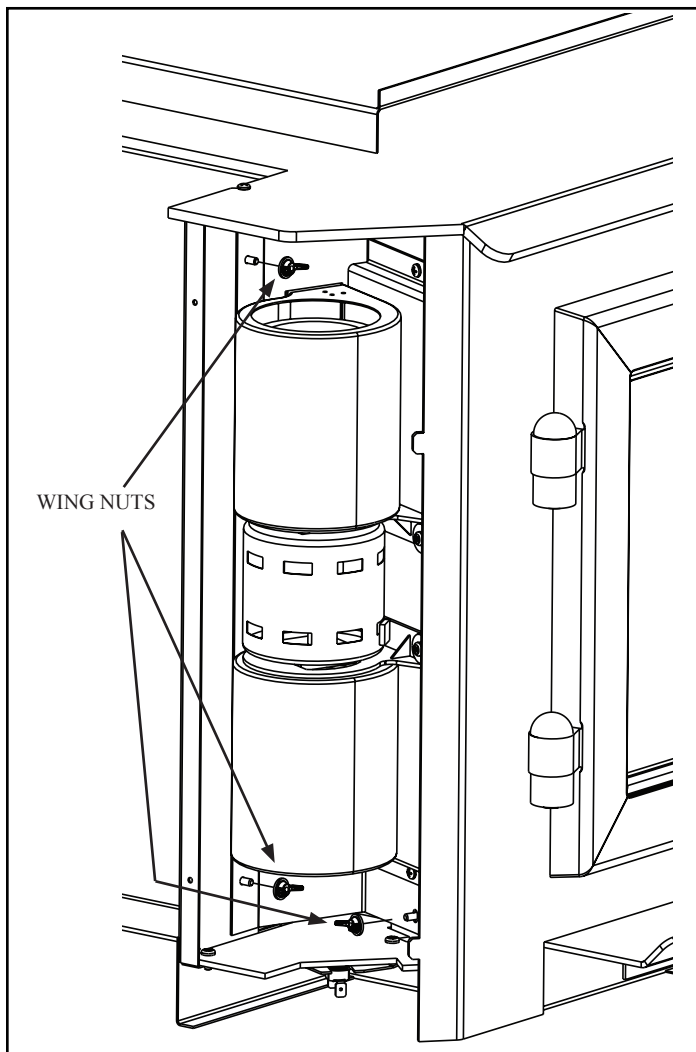

Figure 22.1
4. Remove three wing nuts as shown. **Figure 22.1**
6. Slide the baffle pieces one piece at a time underneath the blanket. Be sure the baffle boards are even with the front manifold tube and is resting on all tubes. **Figure 22.1 and 22.2.**